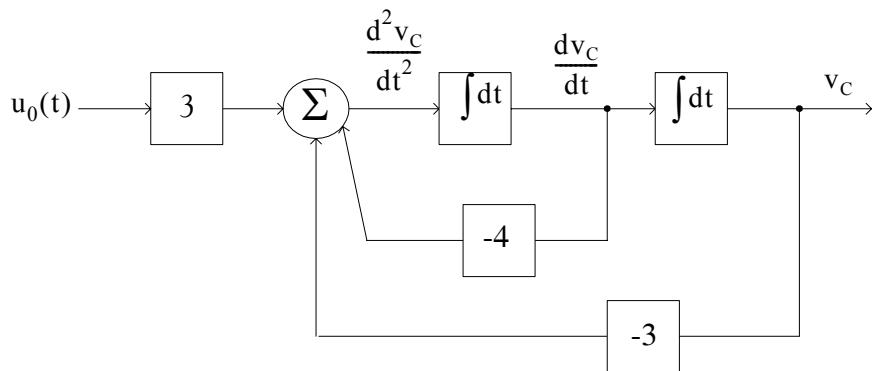
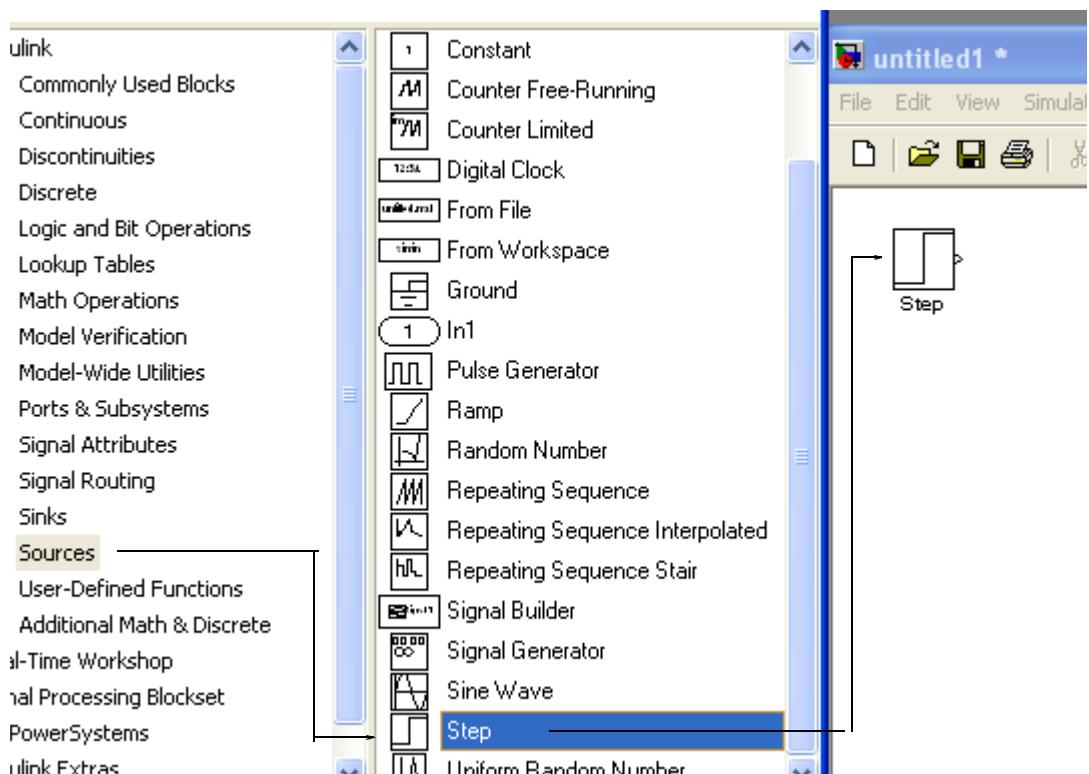

Figure 1.5. Block diagram for equation (1.26)
Figure 1.8. Dragging the unit step function into File Equation_1_26
A block diagram representing (1.26) is shown in Figure 1.5. Now, we will use Simulink to draw a similar block diagram.
2. With the **Equation_1_26** model window and the **Simulink Library Browser** both visible, we click on the **Sources** appearing on the left side list, and on the right side we scroll down until we see the unit step function. See Figure 1.8. We select it, and we drag it into the **Equation_1_26** model window which now appears as shown in Figure 1.8. We save file **Equation_1_26** using the File drop menu on the **Equation_1_26** model window (right side of Figure 1.8).
3. With reference to block diagram of Figure 1.5, we observe that we need to connect an amplifier with Gain 3 to the unit step function block. The gain block in Simulink is under **Commonly Used Blocks** (first item under Simulink on the **Simulink Library Browser**). See Figure 1.8. If the **Equation_1_26** model window is no longer visible, it can be recalled by clicking on the white page icon on the top bar of the **Simulink Library Browser**.